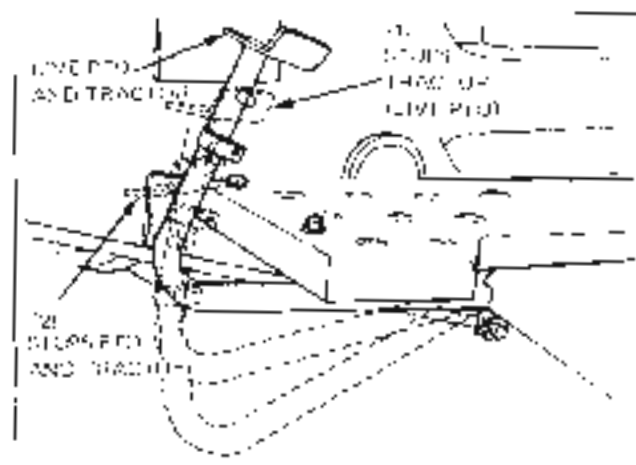

Figure 11 - Dual Clutch
A dual clutch is available with the above mentioned tractor engine, while the PTO shall run in any position. When the clutch pedal is depressed to disengage (Fig. 11), the tractor in general stops while the PTO shall continue as engaged. If the PTO is engaged, if the pedal is depressed to disengage (2) with tractor and PTO motion stop.